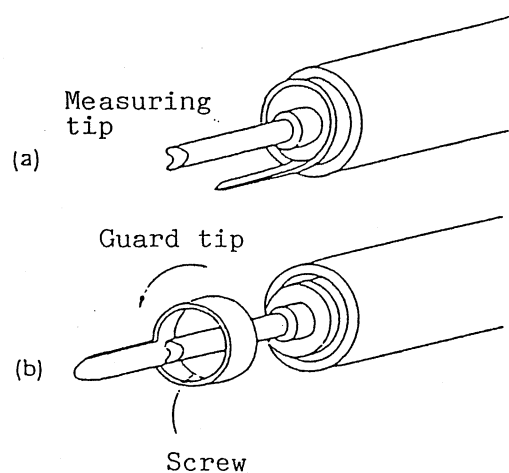

Figure 11 Red Measuring Rod
1) When measuring rod is used (Figure 11)